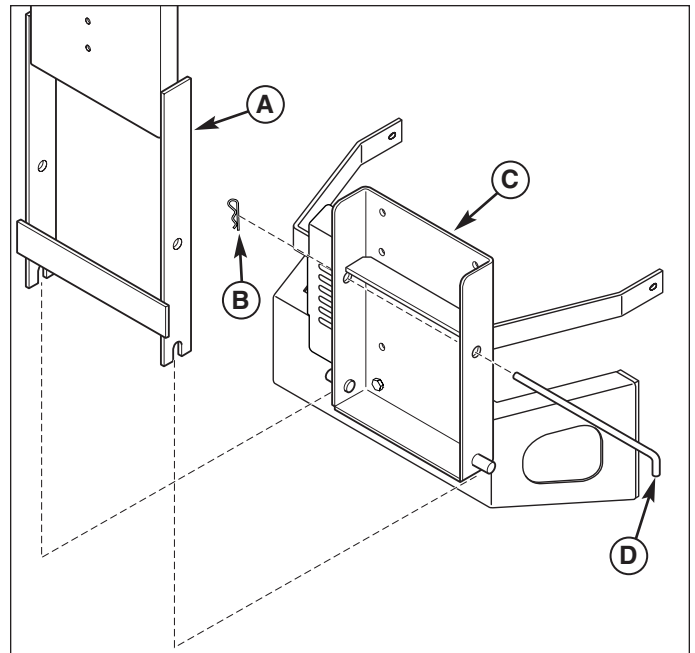

Figure 11. Install Back Plate
1. Set the back plate & support (A, Figure 11) on pins of hitch plate (C). Secure with rod (D) and hair pin (B).